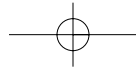

FIG. 24
**FREE WARNING LABEL REPLACEMENT:** If your warning labels (Fig. 24) become illegible or are missing, call 1-800-4-DEWALT for a free replacement.